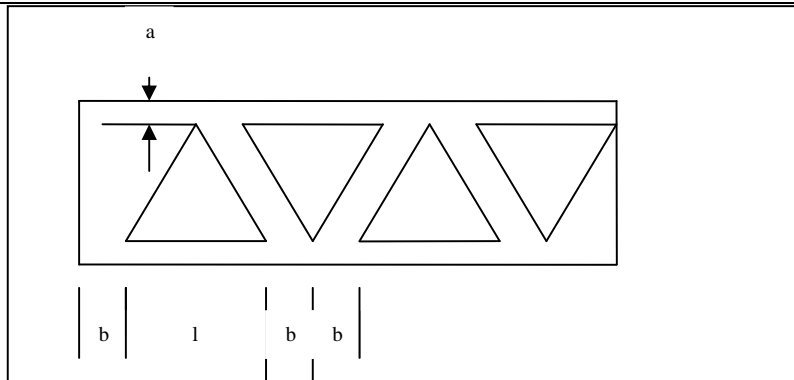

Figure 1.
10.	Calculate the different seeds available on spindle of a lathe and show them on 1 x 2 x 3 (cross) and 1 x 2 x 3 (open) ray diagram using following data: (1) Max spindle speed RPM = 166 (2) Min spindle speed RPM = 30 No of spindle speed = 6
15.	Determine the material utilization factor for producing 60 mm equilateral triangle blank from a 4 mm thick. Assume bridge allowance is 1.5T and the blanks are arranged in straight line as showing in figure 1. a = b